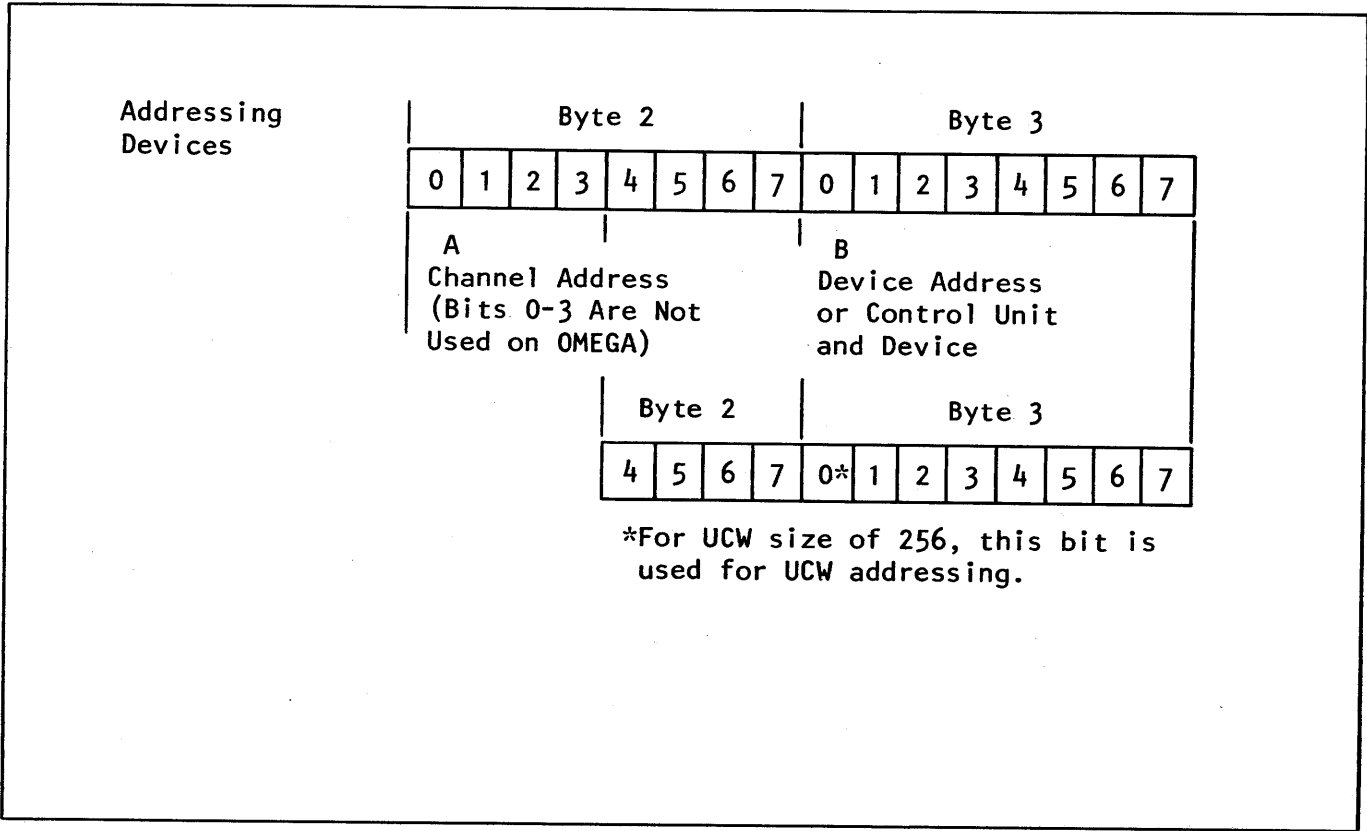

Figure 4-1. UCW Addressing
Before a command for operation of an I/O device can be sent to its control unit, the device must be addressed. The address is derived from the I/O instruction and consists of the two low-order bytes of the developed address. The channel address (A in figure 4-1) is in the high-order byte, and the device address (B) is in the low-order byte.